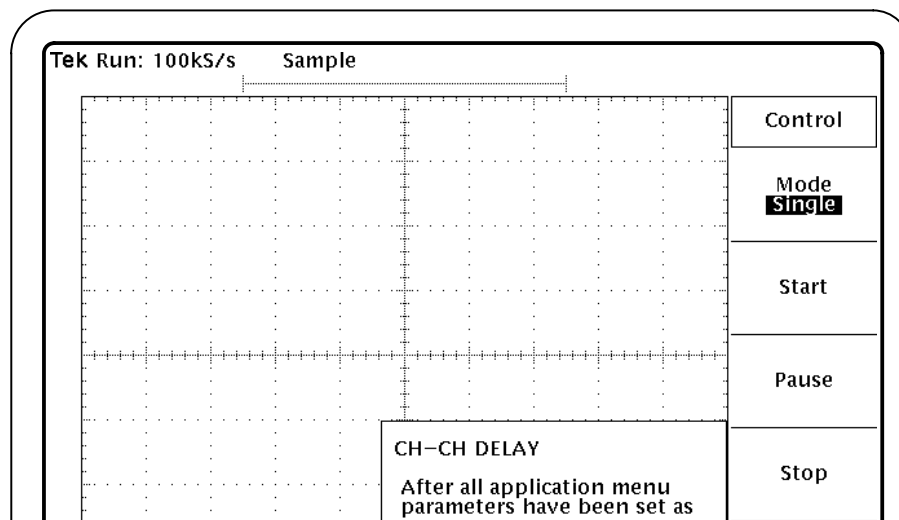

Figure 13: Control menu
1. Press Control (main). Table 12 lists menu items in the Control menu, and Figure 13 shows the Control menu..